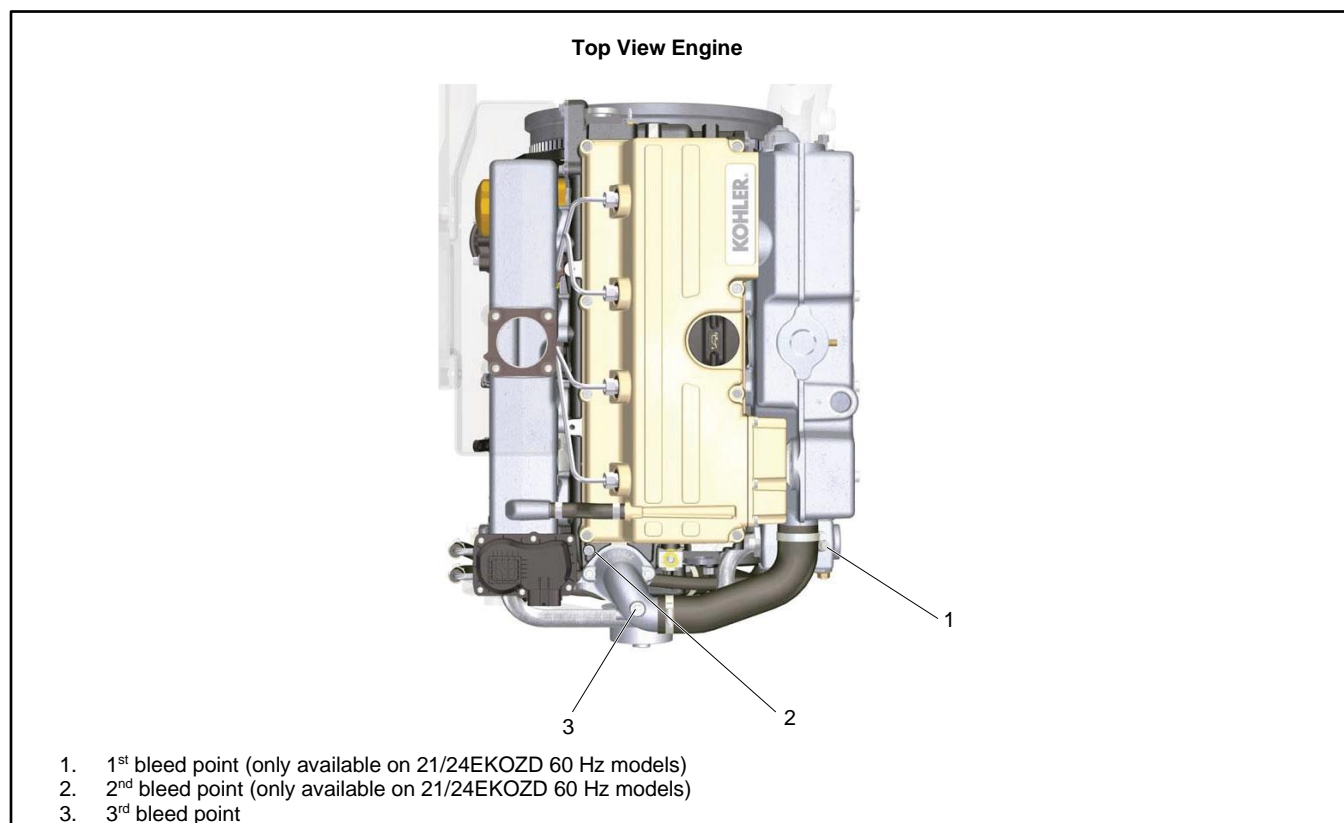

Figure 38 Bleed Point Locations
2. Slowly fill the coolant system until observing coolant at the first bleed point (lowest port) with the plug removed. See Figure 38.
4. Slowly fill the coolant system until observing coolant at the second bleed point with the plug removed. See Figure 38.
6. Slowly fill the coolant system until observing coolant at the third bleed point (highest port) with the plug removed. See Figure 38.